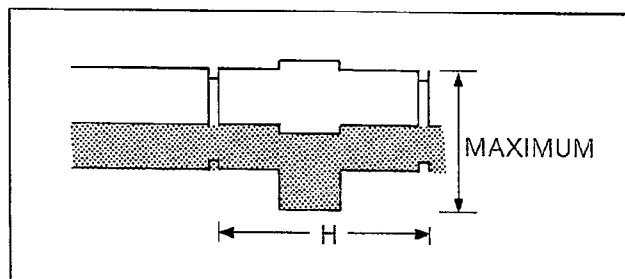

Fig. C20
5. Push "INC" or "DEC" KG/so that waveform is maximized as shown in Fig. C20.